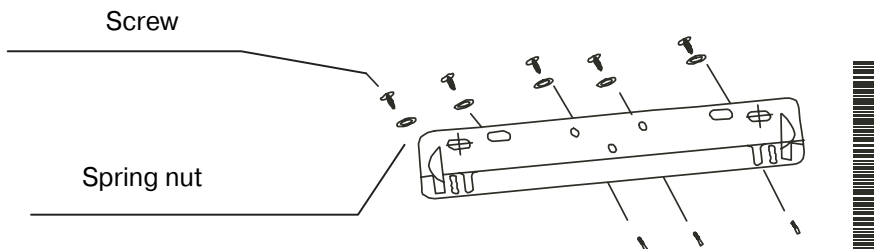

Figure 6. Mounting plate fixing.
- Install Air Curtain on the mounting plate. A interval must be more than 100 mm (Fig.6)